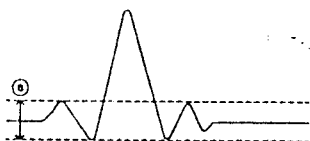

Figure 4 2T PULSE
- 5) Tilt the front of the yoke right or left to obtain the convergence in circumference. (See Fig. 4)